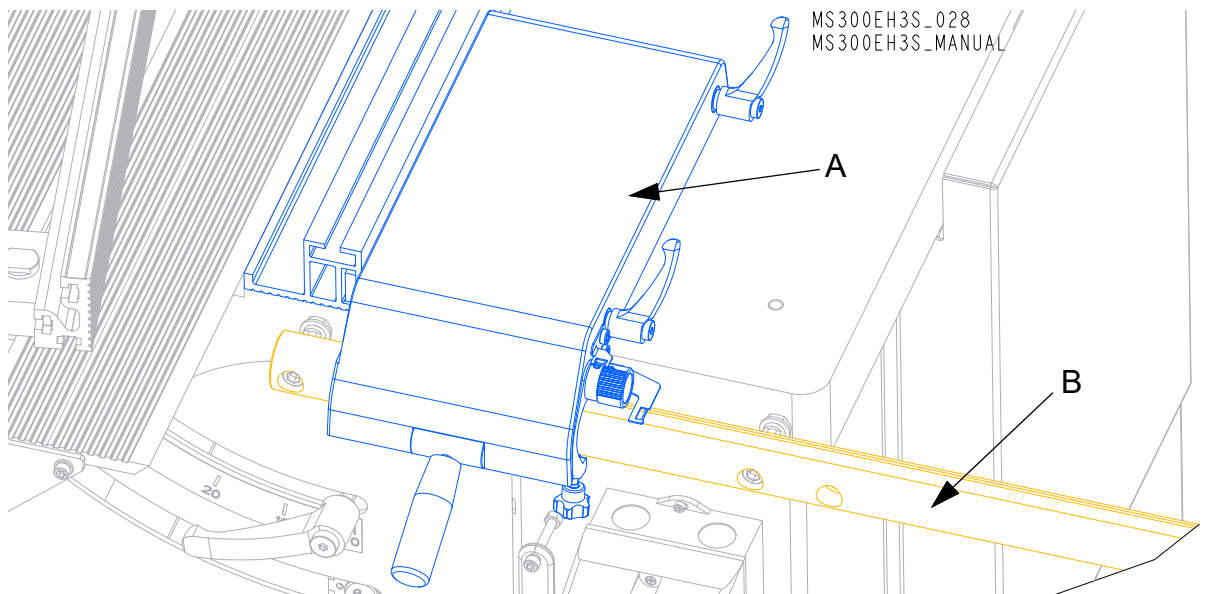

FIG. 3-29
- 5. Remove the Gauge Assembly (A) from the Guide Bar (B). See Figure 3-29.